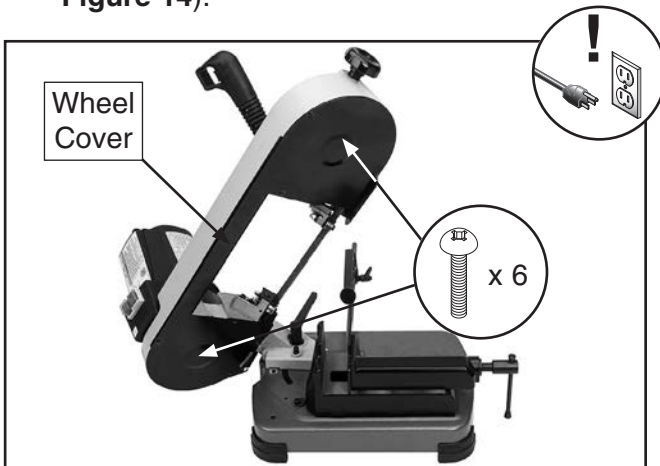

Figure 14. Location of rear wheel cover.
3. Remove six wheel cover screws (see **Figure 14**).